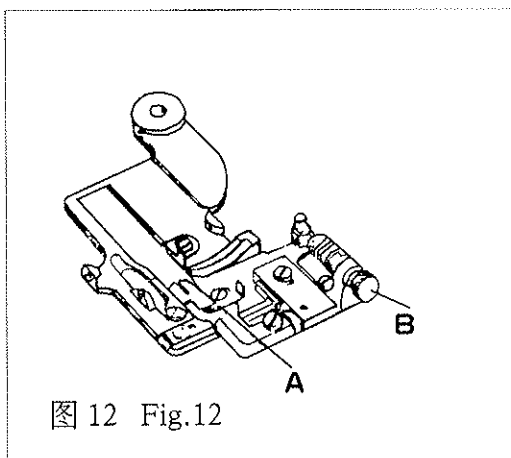
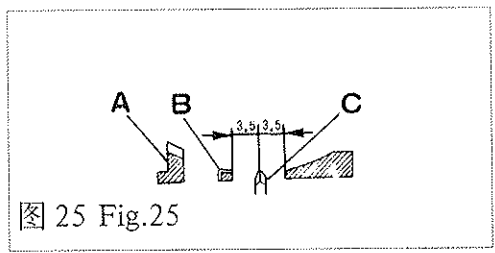
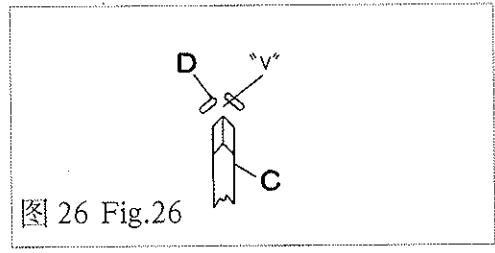

图 12 Fig.12
图 25 Fig.25
图 26 Fig.26
3.Regulation of the pressure of materlal retainer(Fig.12)
(1)左右位置 抬料轮“C”的中心位置应与针板“A”上的压料板槽中心位置重合(图25);压料板“D”的V形槽中心位置与抬料轮“C”中心位置重合(图26)。
①首先旋松紧定螺钉“C”，转动顶尖螺钉“B”，使抬料轮调节杆“A”无轴向窜动，但又能灵活摆动，然后将紧定螺钉“C”旋紧。
②旋松卡圈“D”的锁紧螺钉“E”及曲柄“F”的锁紧螺钉“G”后将抬料轴左右移动，使抬料轮处于标准位置(图 25)时将锁紧螺钉“E”及“G”旋紧，并应保持抬料轴无轴向窜动，但能灵活摆动，且与左右压脚板互不相碰。
③旋松压料板螺钉“A”，左右移动压料板“D”(图 12)使压料板V形槽中心与抬料轮中心重合(图 26)时，旋紧压料板螺钉。
(1) The left and right postiton.
The centre of the ridge forming disc “C” coincides with the centre of material re- tainer groove on needle plate “A”(Fig.25); the centre of “V” groove of material retaiier “D” coincides with the centre of ridge forming disc “C”(Fig.26).
①Loosen set screw “C” and turn pointed screw “B” to secure that the ridge form- ing disc regulating lever “A” swings nimbly and is kept from having axial play,and tighten set screw “C”.
② After loosening lock screw “E” of collar “D” and lock screw “G” of crank “F”, move the ridge forming disc leftward or rightward to set the ridge froming disc in a position required (Fig.25), tighten lock screw “E” and “G”. Make sure that the ridge forming disc shaft shall be kept from having axial play and swing nimbly. The ridge forming disc shaft shall not come into contact with either the left presser foot or the right one.
③ Loosen material retainer screw “A”, move material retainer “D” (Fig.12) left- ward and rightward to make the centre of “V” groove on material retainer coincides with the centre of the ridge froming disc (Fig.26). Tighten material retainer screw.